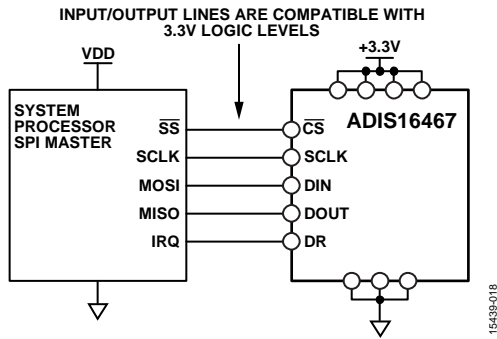

Figure 18. Electrical Connection Diagram
The SPI provides access to the user registers (see Table 8). Figure 18 shows the most common connections between the ADIS16467 and a SPI master device, which is often an embedded processor that has an SPI-compatible interface. In this example, the SPI master uses an interrupt service routine to collect data every time the data ready (DR) signal pulses.